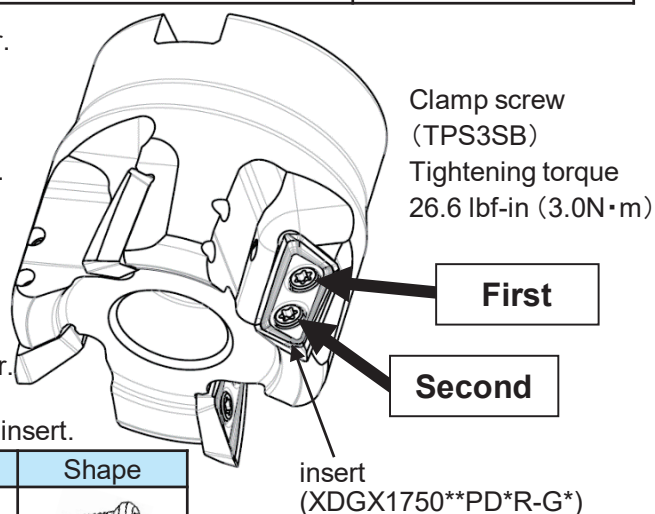

Fig. 1 Tightening order
2. When tightening the clamp screws, follow the order in Figure 1.